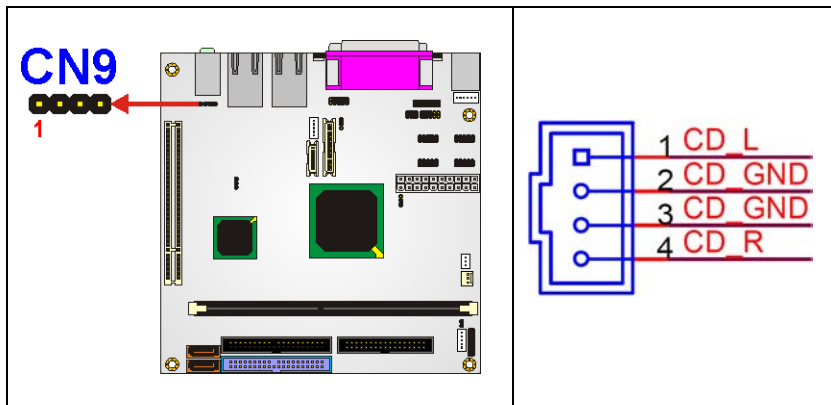

Figure 3-3: CD-IN Connector Pinout Locations
- CN Location: See **Figure 3-3**